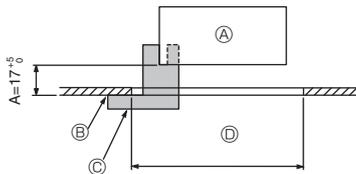
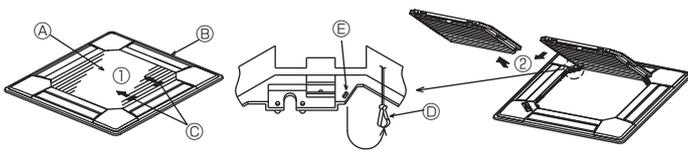
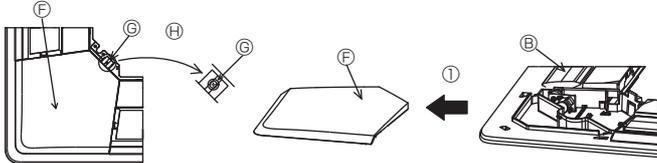

Fig. 9-2
Fig. 9-3
Fig. 9-4
①	Grille	1	950 × 950 (mm)
②	Screw with captive washer	4	M5 × 0.8 × 25
③	Gauge	1	(Divided into 4 parts)
④	Fastener	3
⑤	Screw	4	4 × 8
⑥	Screw	1	4 × 12
⑦	Wireless remote controller	1	for PLP-6BALM, PLP-6BALME
⑧	i-see sensor corner panel	1	for PLP-6BAE, PLP-6BALME
9.2. Preparing to attach the grille (Fig. 9-2)
- With the gauge ③ supplied with this kit, adjust and check the positioning of the unit relative to the ceiling. If the unit is not properly positioned relative to the ceiling, it may allow air leaks or cause condensation to collect.
- Ⓒ Gauge ③ (inserted into the unit)
9.2.1. Removing the intake grille (Fig. 9-3)
- Slide the levers in the direction indicated by the arrows ① to open the intake grille.
- With the intake grille in the "open" position, remove the hinge of the intake grille from the grille as indicated by the arrows ②.
9.2.2. Removing the corner panel (Fig. 9-4)
- Remove the screw from the corner of the corner panel. Slide the corner panel as indicated by the arrow ① to remove the corner panel.
[Fig.9-3] [Fig.9-4]